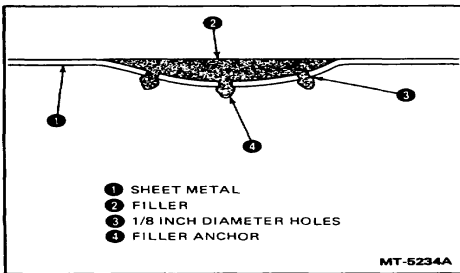

Figure 52. - Repairing Dents
3. Drill or punch 1/2 inch holes in the dent to assure a good anchor for the filler (Figure 52).